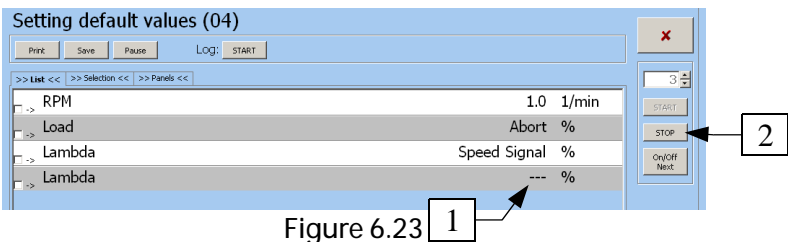

Figure 6.23
procedure. It´s status is indicated by the Status (1) value on the Figure 6.23. The state is indicated either by 1 and 0 sequence or by a sign ADP running / ADP OK. An exactly defined sequence of 1 and 0 or a ADP OK sign indicates that the procedure is finished and we can quit it by pressing the Stop (2) button.